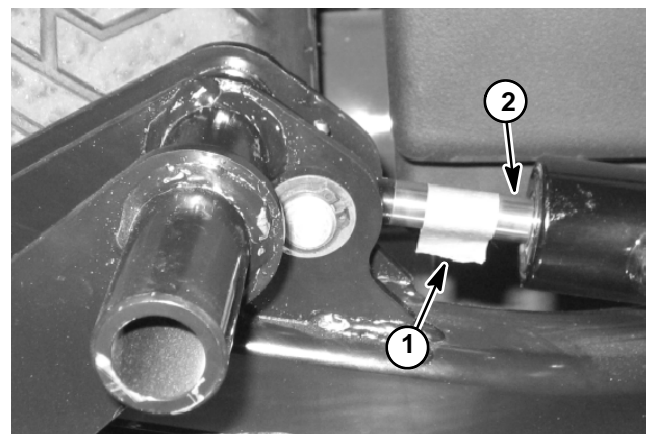

Figure 58
7. Leave the machine parked for two (2) hours and monitor the lift cylinder. The weight of the cutting deck may cause the lift cylinder to gradually extend. Use the tape location to determine lift cylinder rod movement (Fig. 58).
A. If lift cylinder rod movement is less than 1.250" (31.7 mm) after two (2) hours, make sure that the cutting deck has not settled to the ground. If the cutting deck is still suspended after two (2) hours and lift cylinder rod movement is less than 1.250" (31.7 mm), consider that the lift cylinder is in good condition. A cylinder in good, usable condition will show minimal movement.
B. Rod movement in excess of 1.250" (31.7 mm) after two (2) hours indicates that the lift cylinder may have internal seal damage or excessive wear. Remove and inspect the lift cylinder (see Lift Cylinder and Lift Cylinder Service in the Service and Repairs section of this chapter).